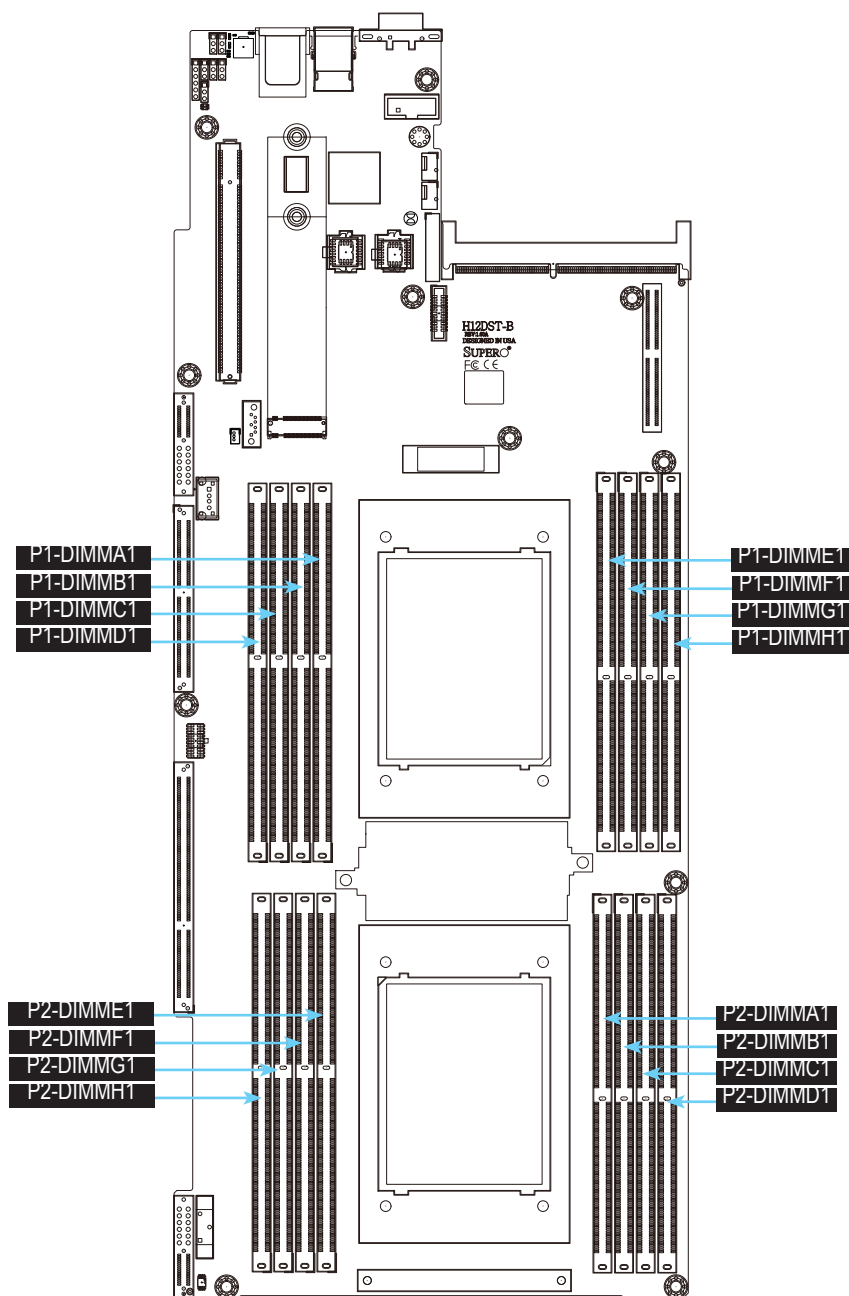

Figure 3-5. DIMM Numbering
2. Use the handle to pull the carrier out of the chassis (Figure 3-5).